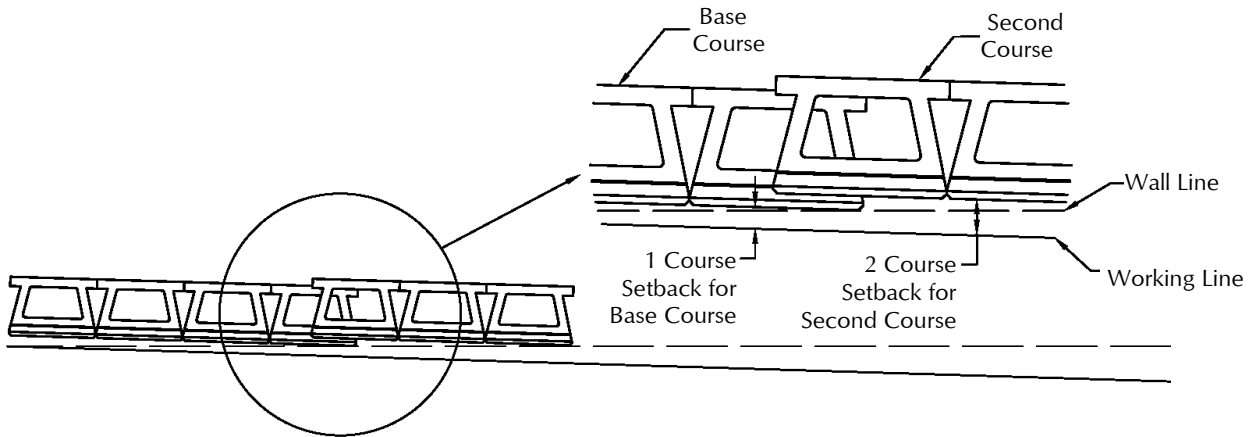

Figure 4: Installing the Second Course
7. When your base course meets the *Wall Line*, it should be time for a step-up. Start constructing the second course as described in the *AB Commercial Retaining Wall Manual* on top of your compacted base. This course will be built using the setback shown for 2 block heights in Table 1. Referring to Figure 4, our example wall would be set back 1 5/8 inches (43 mm) from the *Working Line*.